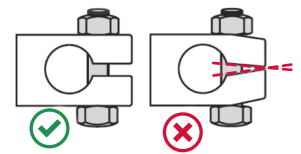

Figure 4
- Do not over tighten upper ball stud nut and pinch bolt. This may cause damage to knuckle ears (Figure 4)